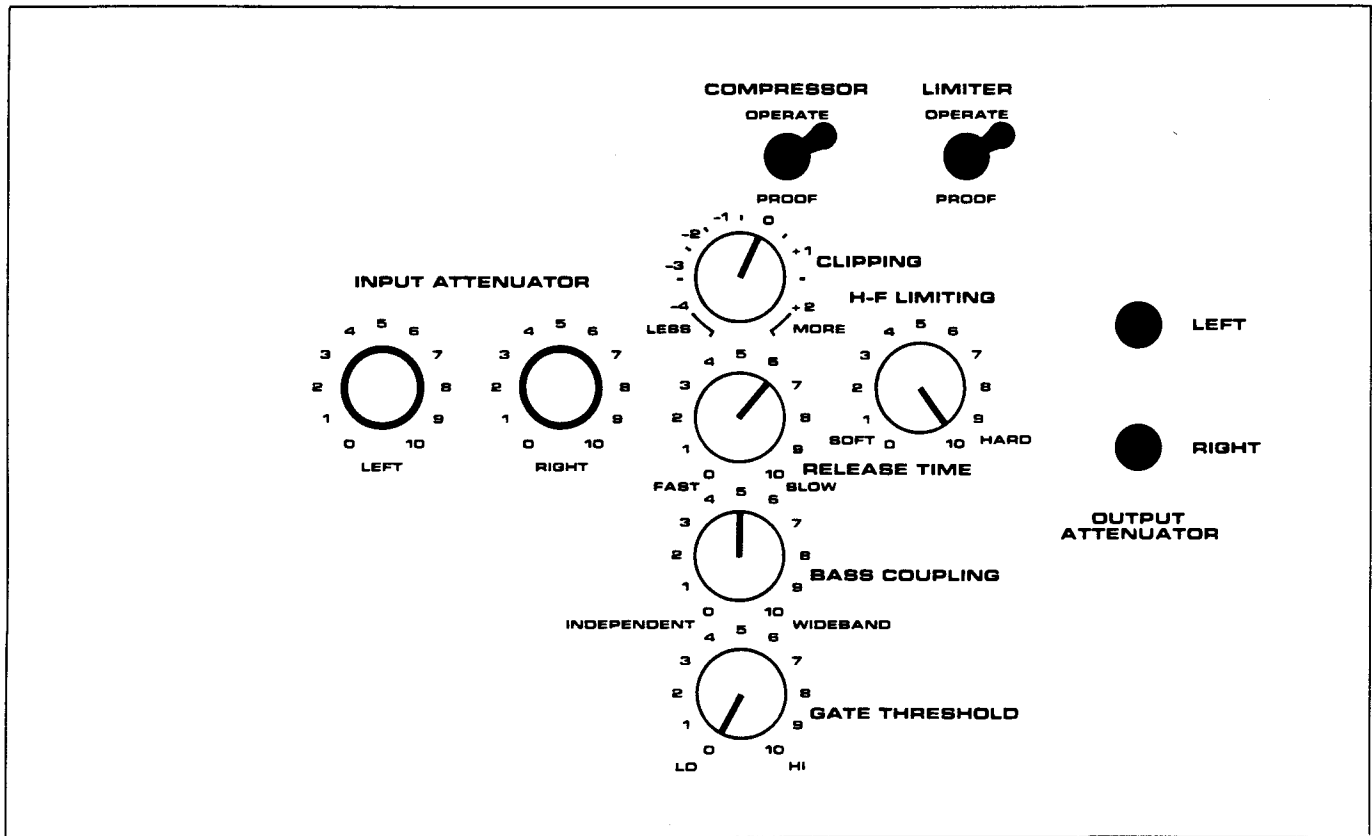

Fig. 2-9: Recommended Initial Control Settings for Most Program
- A  If you have installed the *8100A/ST Studio Chassis*, set its controls as shown in Fig. 2-9 — DO NOT readjust the 8101B's input attenuator controls.
- C  If you are *not* installing the 8100A/ST Studio Chassis or 8100A/XT2 Six-Band Limiter, set the 8101B's controls as shown in Fig. 2-9 — DO NOT adjust the OUTPUT or INPUT ATTENUATOR controls at this time.